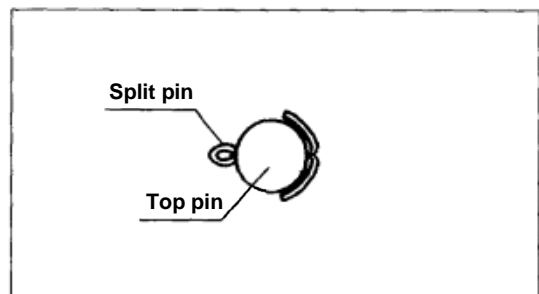

Fig. 2
- d) Firmly bend the pointed end of the split pin as shown in Fig. 2.
Mount the suspender G to the connection yoke with the connection yoke rubber, the yoke bolt and the slotted nut. Then insert a new split pin and bend it securely as shown in Fig. 2.